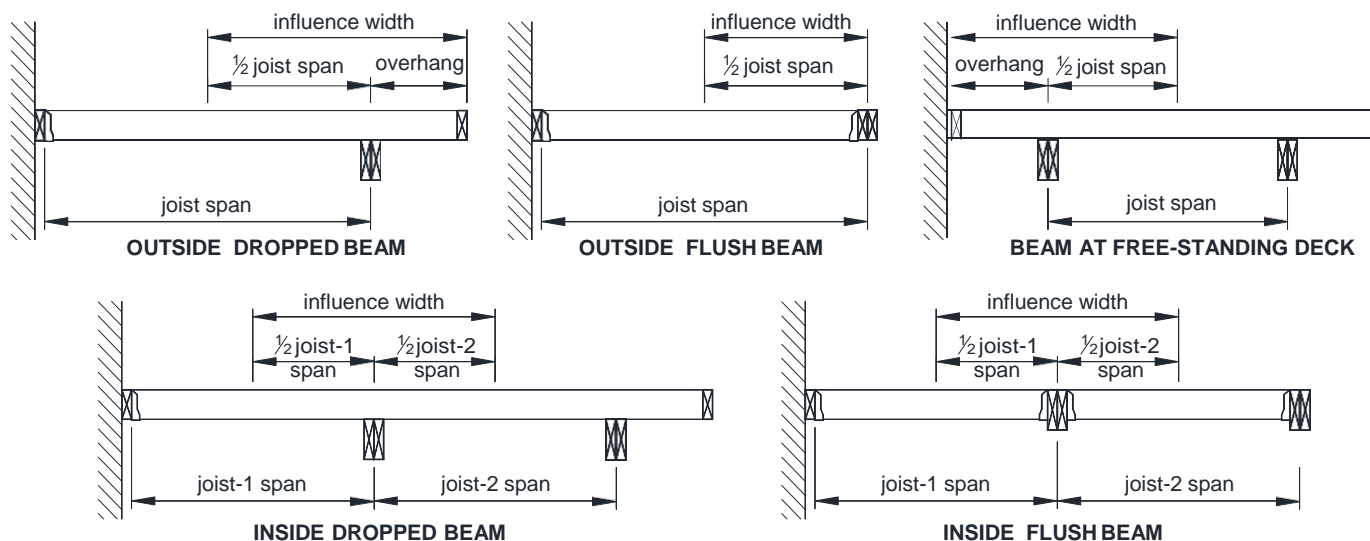

FIGURE 12: BEAM INFLUENCE WIDTH
- Beam size is based on its influence width and longest span length per TABLE 3. Beam influence width, as shown in FIGURE 12, is based on supported joists' span lengths and overhang dimensions.